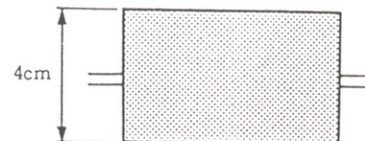

Fig. 7-19
- 2-3) Turn the K1 guide adjusting nut clockwise, and ~~make the RF waveform input side 4 cm wide as illustrated (Fig. 7-19).~~
adjust the upper flange so that it touches the tape as illustrated in Fig. 7-19.